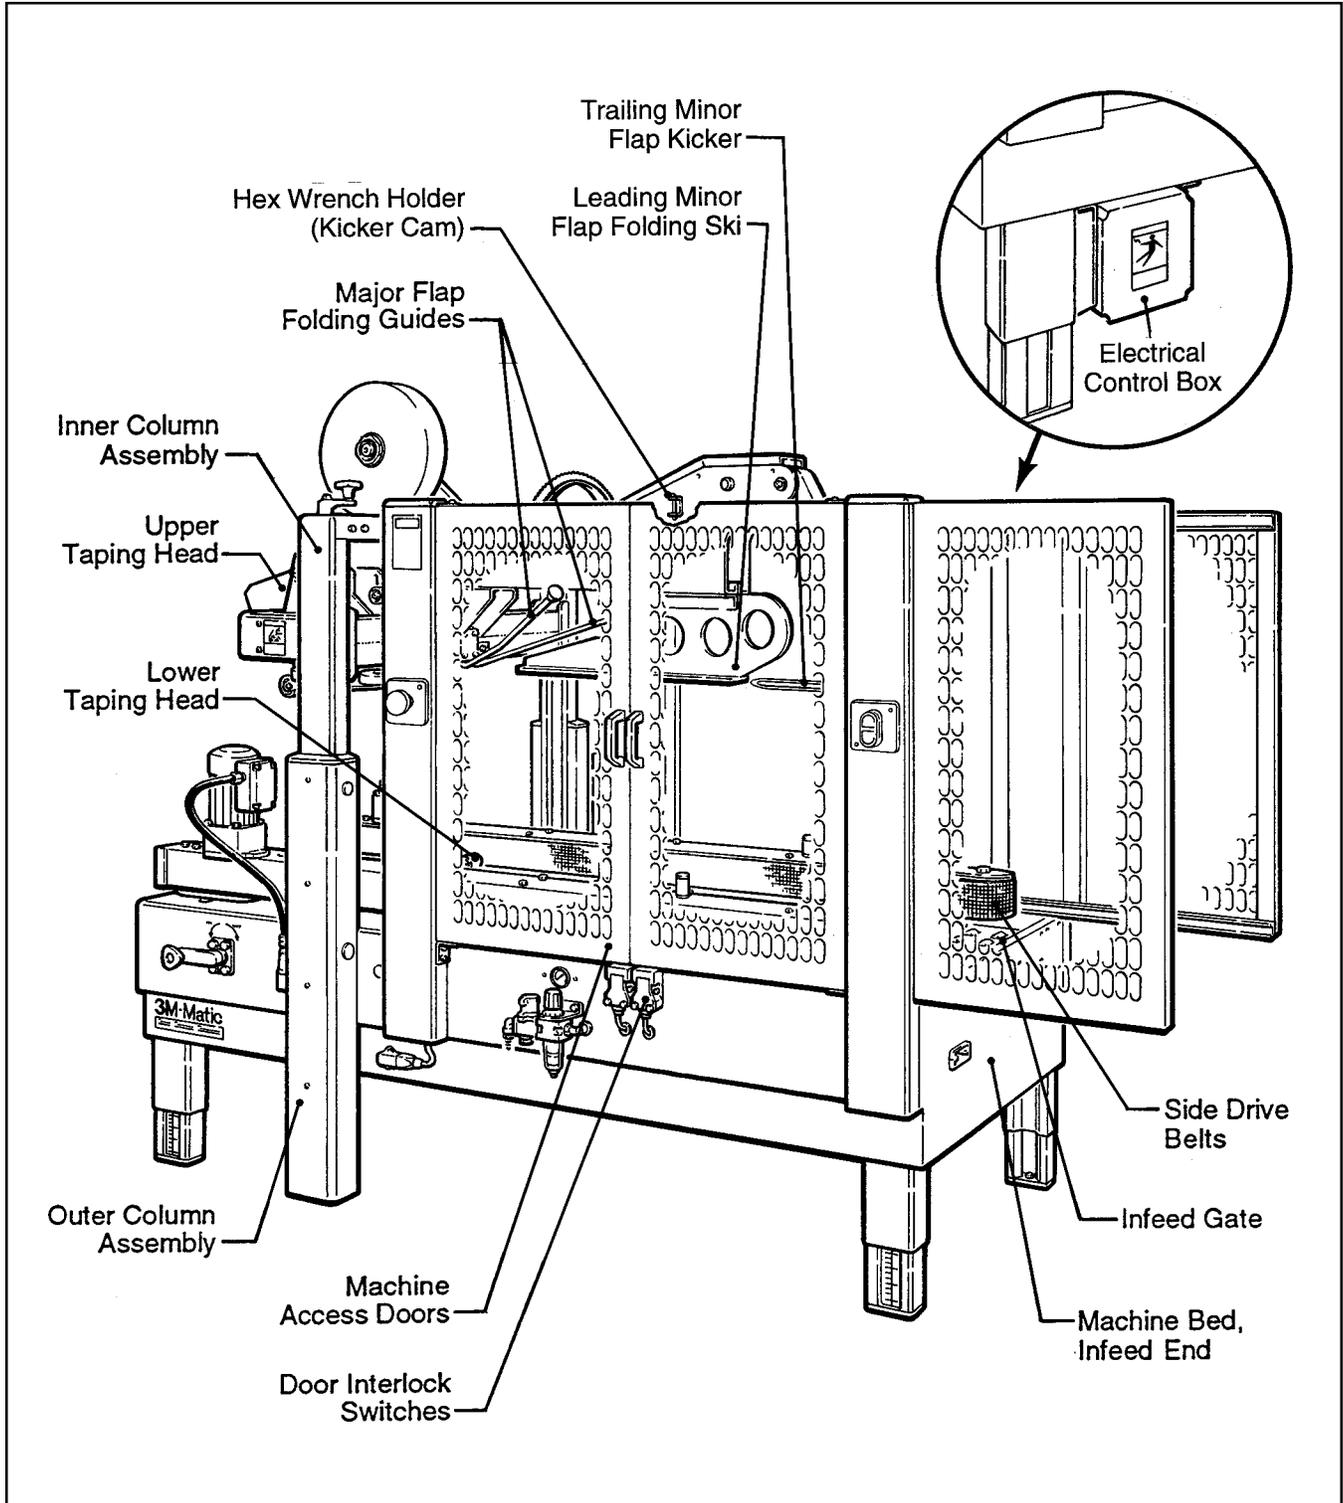

Figure 3-1 – Case Sealer Components
The following instructions are presented in the order recommended for setting up and installing the case sealer. Following them step by step will result in an installation in your production line that best utilizes the many features built into the case sealer. Refer to Figure 3-1 and 3-2 to identify the various components and controls of the machine.
14. Electrical connection and controls – the electrical control box shown in Figure 3-1, contains the "On/Off" switch with pre-set breaker and can be located on either side of the machine frame for operator convenience. A standard three conductor power cord with plug is provided at the back of the electrical control box for 115 Volt, 60 Hz, 3.8 Amp electrical service. The receptacle providing this service shall be properly grounded. Before the power cord is plugged into 115 Volt, 60 Hz outlet, make sure red "Off" button is depressed and that all packaging materials and tools are removed from the machine. **Do not plug electrical cord into outlet until ready to run machine.**
Refer to Figure 3-1 and 3-2 to acquaint yourself with the various components and controls of the 800af case sealer. Also see Figures 3-1 and 3-2 in Section II for taping head components.
9. Both the upper and lower taping heads utilize extremely sharp tape cut-off knives. The knife is located under the orange knife guard which has the "WARNING – SHARP KNIFE" label. Before loading tape, refer to Figures 3-1 and 3-2 in Section II to identify the knife location. Keep hands out of these areas except as necessary to service the taping heads.
Note: 5 mm hex key wrench is supplied with machine and should be kept in wrench holder on side of upper frame. See Figure 3-1.